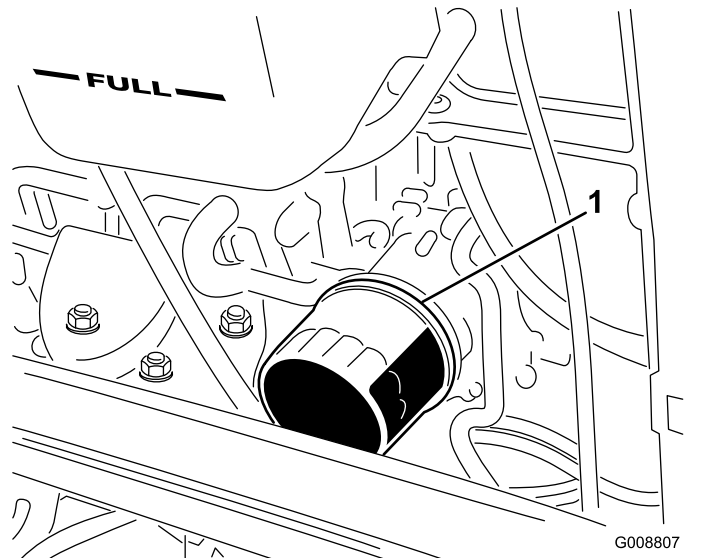

Figure 80
4. Remove the oil filter (Figure 80).